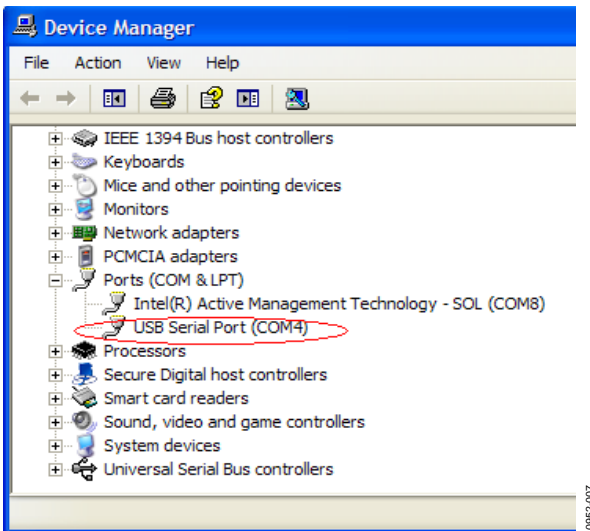

Figure 7. USB Serial Port Displays
4. Check that it appears in the Windows Device Manager as shown in Figure 7.